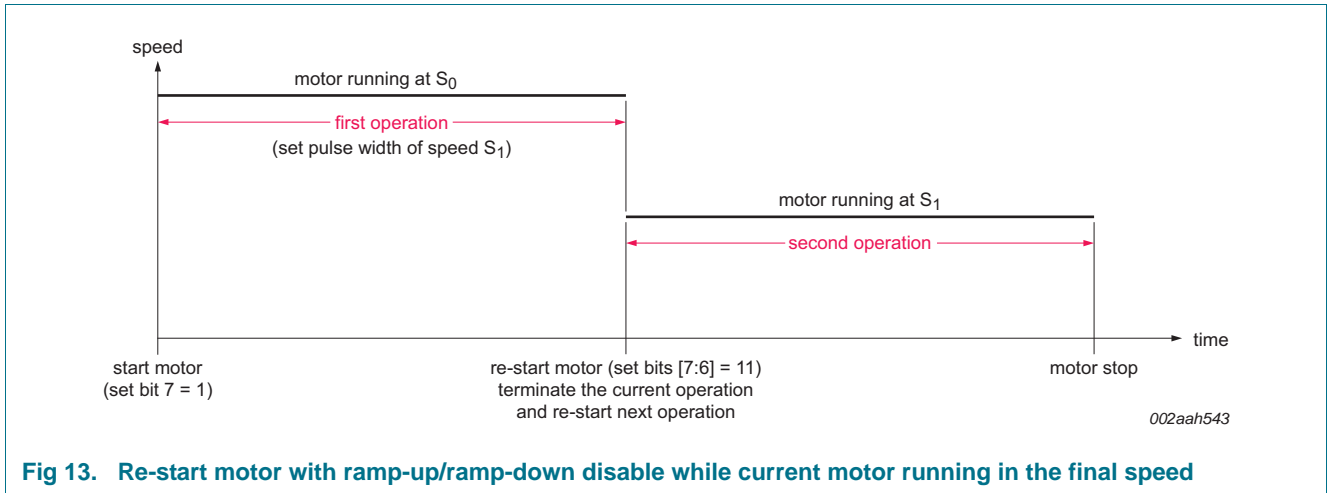

Fig 13. Re-start motor with ramp-up/ramp-down disable while current motor running in the final speed
- Set re-start motor bit to '1' while the current motor is running (bit 7 = 1) in the final (top) or target speed (S_0), the re-start motor action will take place immediately based on the new motor parameter registers setting. If both ramp-up/ramp-down are disabled, it will change to new speed of S_1 immediately as shown in Figure 13. If both ramp-up/ramp-down are enabled, it will go to new speed of S_1 with either ramp up ($S_0 < S_1$) or ramp down ($S_0 > S_1$) as shown in Figure 14.